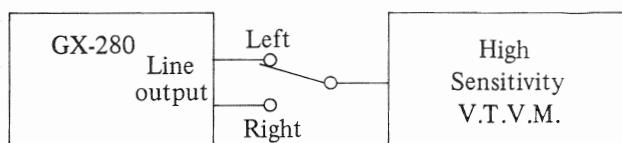

Fig. 17
1. PLAYBACK LEVEL ADJUSTMENT (See Figs. 17 to 19)